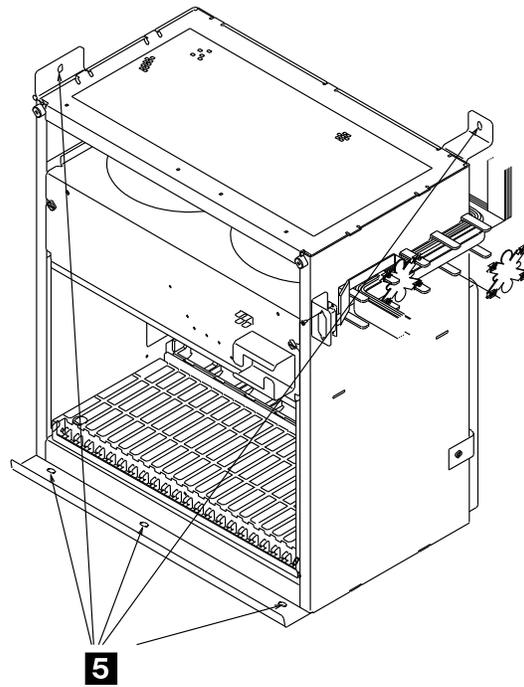

Figure 4-109. Basic Board Enclosure
21. Remove the five screws **5** which maintain the enclosure to the frame (refer to Figure 4-109). Slide the enclosure out of the machine taking care not to damage the cables.
10. Fasten the enclosure to the frame with the five screws **5**. Refer to Figure 4-109 on page 4-79.